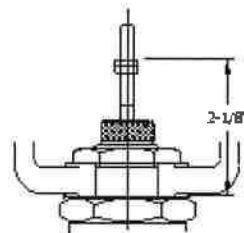

Figure 4.
- 11) Replace the stem locknuts and re-position and lock in place as previously measured in step 2. If this dimension is not available, see section on "Reassembling Actuator to Pilot Valve Body Assembly" and use the dimension as shown in figure 4.
- c. Set the topmost locknut to the dimension 2-1/8", shown in figure 4.